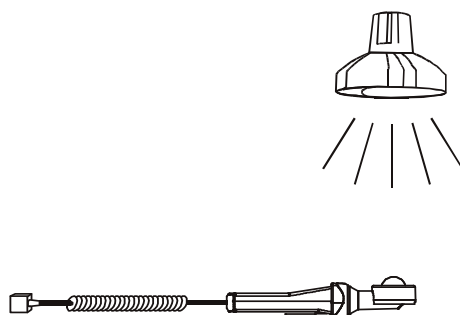

Figure 5.46: Positioning of the luxmeter
- ☐ Switch the luxmeter on and position it underneath the light source (see figure 5.46).